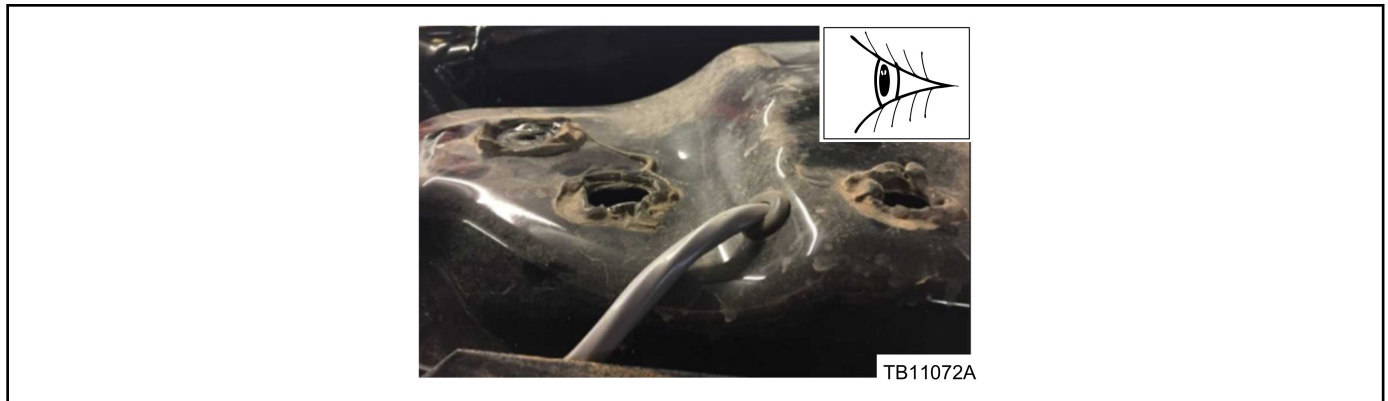

Figure 4 - Article 17-0044
- f. Spoiler attachment to the liftgate sheet metal. Improper spoiler sealing. (Figure 4)